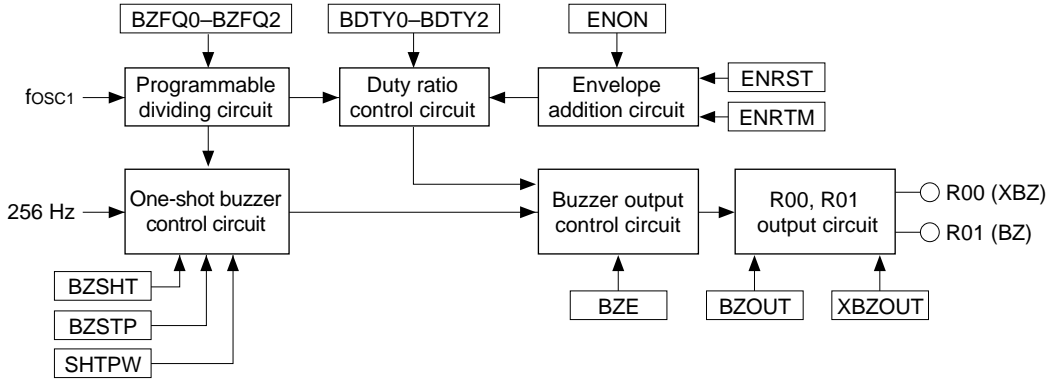

Fig. 4.12.1.1 Configuration of sound generator
The E0C63557 has a built-in sound generator for generating buzzer signals. Hence, generated buzzer signals can be output from the R00 (XBZ) and R01 (BZ) terminals. Aside permitting the respective setting of the buzzer signal frequency and sound level to 8 stages, it permits the adding of a digital envelope by means of duty ratio control. It also has a one-shot output function for outputting key operated sounds. Figure 4.12.1.1 shows the configuration of the sound generator.